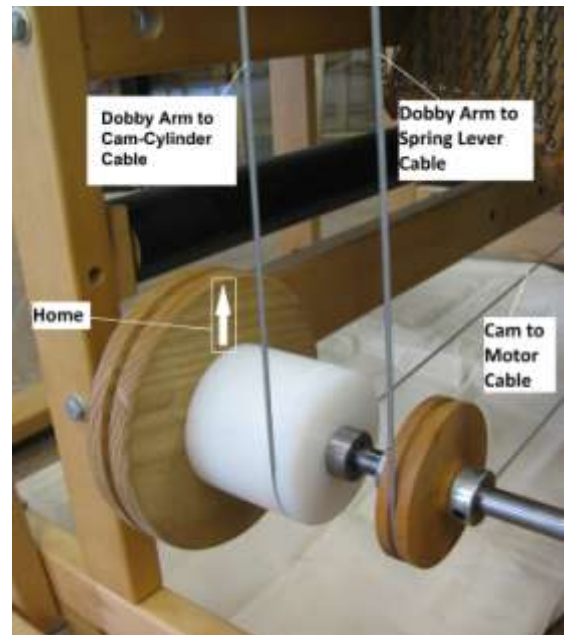

Fig 5 – Cables and Home
**4)** Unwrap the Dobby Arm to Cam-Cylinder Cable from the smaller diameter pulley side of the Cam-Cylinder. Route the cable around and under the Cylinder, as seen in Figure 5, then up the outside of the loom, to the Dobby Arm. Slip the crimp into the small hole on the underside of the Dobby Arm and out the other side. Attach the plastic retainer and pull the cable back into the arm.
**Setting Home Position** (See Fig. 5) Each time you power up your E-Lift you must set "Home" position. This adjustment is very important as it tells the E-Lift when the Dobby Arm is in the upper position, which is where it changes harness selection.
***TIP:*** Many customers have found it advantageous to create a visual cue on the Cam to identify Home position. This enables you to more quickly and easily set it without having to look up to the dobbie. To begin, note the vertical arrow on the Cam in Figure 5. It represents the Home marking. Now, set the Home position using the procedure above. Using a 2" strip of masking tape, apply the tape vertically at the 12 o'clock position on the rear of the Cam. Then draw a vertical arrow on the tape pointing to 12 o'clock.